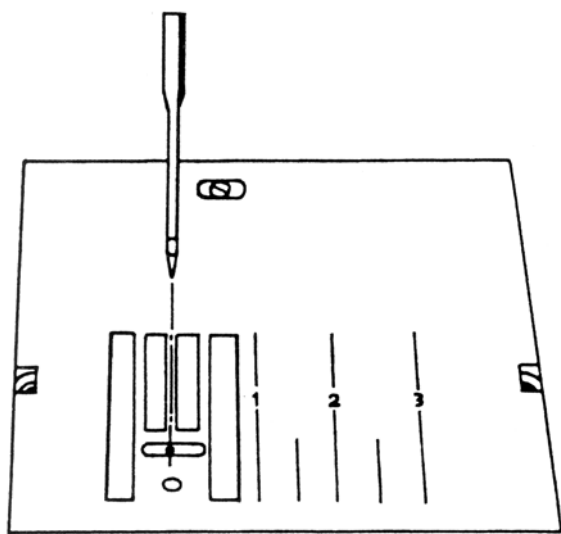

Fig. 24
At the straight stitch setting, the needle must be in the center of the needle hole (fig. 24).
- Carry out a visual check (fig. 24).
- Push the complete stepping motor 51 to the left or to the right until the needle is centered (fig. 24).